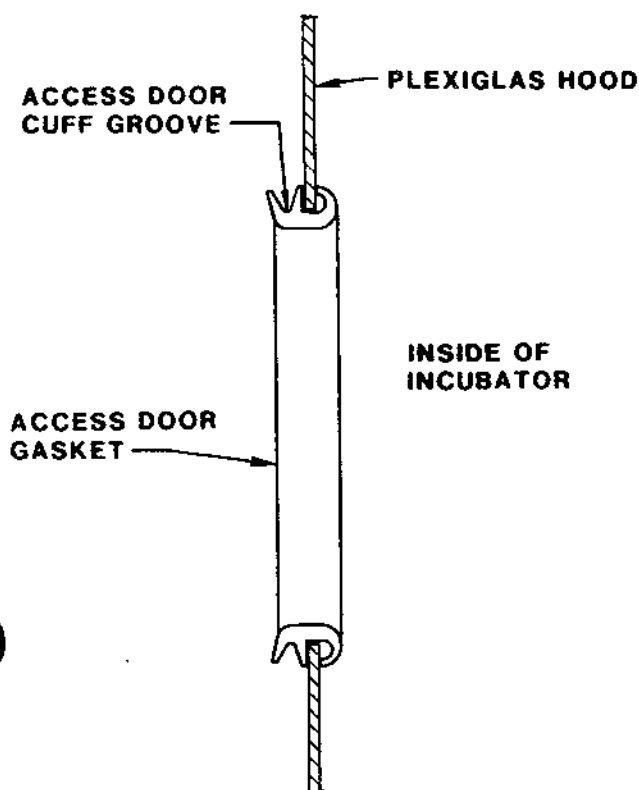

FIGURE 5.9 INSTALLATION OF ACCESS DOOR GASKET
H. INSTALL AN ACCESS DOOR GASKET behind each Access Door, as shown in Figure 5.9.